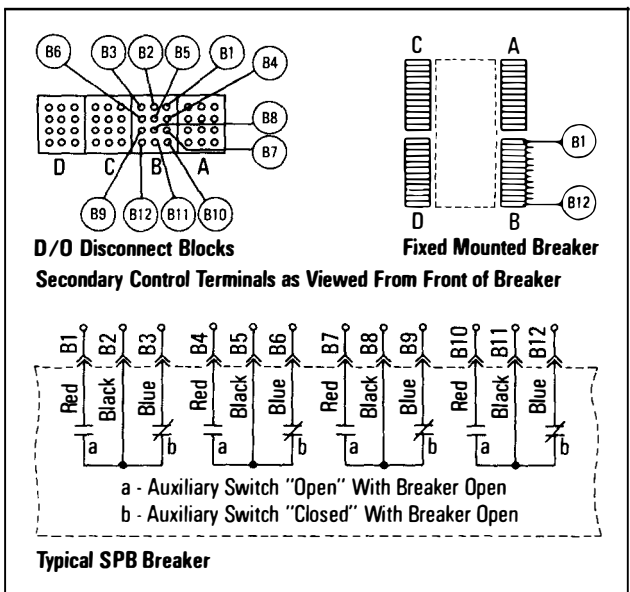

Fig. 8 Connection Diagram shown for 4(a/b) Spare Auxiliary Switches for Standard Drawout and Fixed Mounted Breakers
6. Connect all control wires as indicated by the connection diagrams in either Figs. 8 or 11. Exact terminal locations for both types of drawouts and fixed mounted breakers are shown.